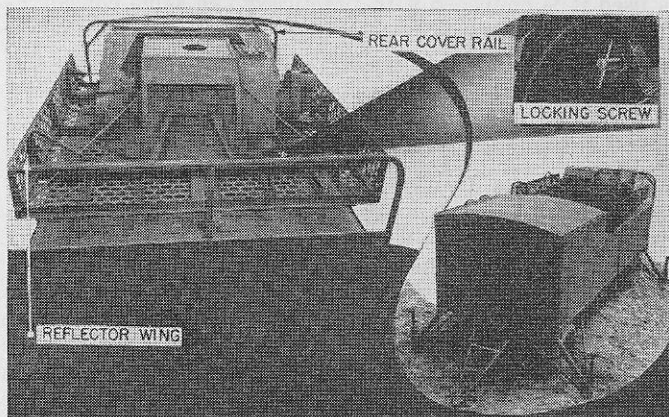

FIGURE 38.—Antenna in traveling position.
g. Swing down the rear cover rail shown in figure 38. (This should not be done until the rear outriggers are down.)
i. Release the antenna from traveling position by removing the four locking screws (fig. 38) from the reflector.